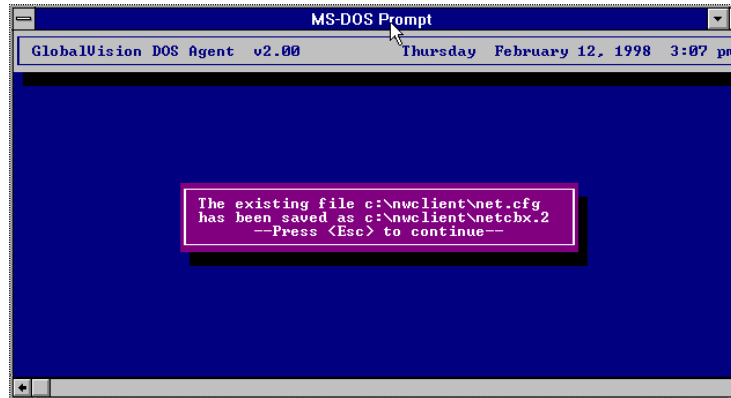

Figure 58 – Saving NET.CFG File
6. A message box appears next stating the old NET.CFG file has been saved and a new NET.CFG file has been created. Press **<ESC>** at the warning message box notifying the NET.CFG file has been modified to continue installation. See Figure 58.